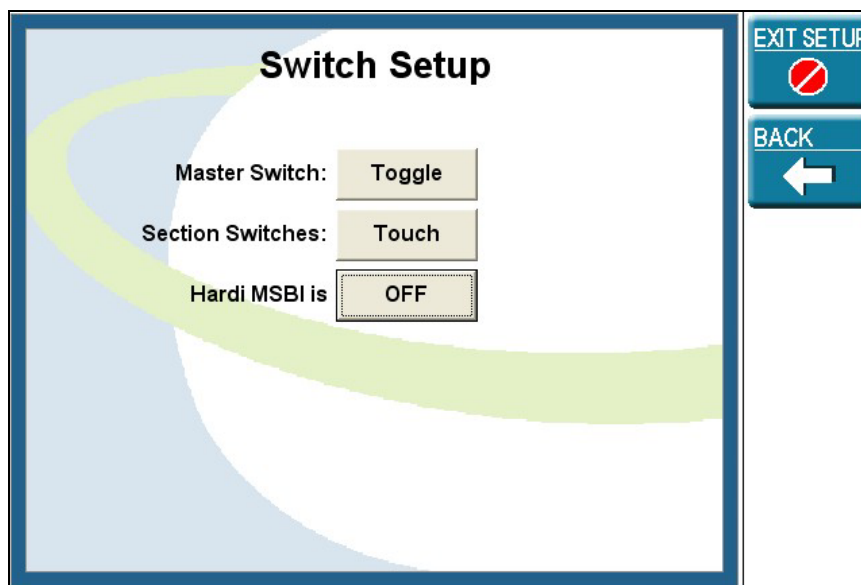

Figure 6-8: Switch Setup Window
- 8) Set Master Switch to **TOGGLE** and Section Switches to **TOUCH** as shown in Figure 6-8.